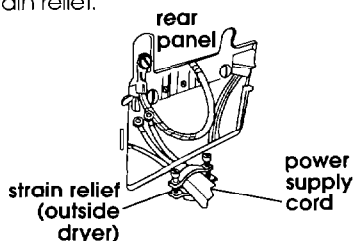

Figure 7
3. Attach 3/4" U.L.-listed strain relief (U.L. marking on strain relief) to the hole below terminal box opening (see Figure 7). Tighten strain relief firmly to cabinet so it is in a horizontal position. Place power supply cord through the strain relief.